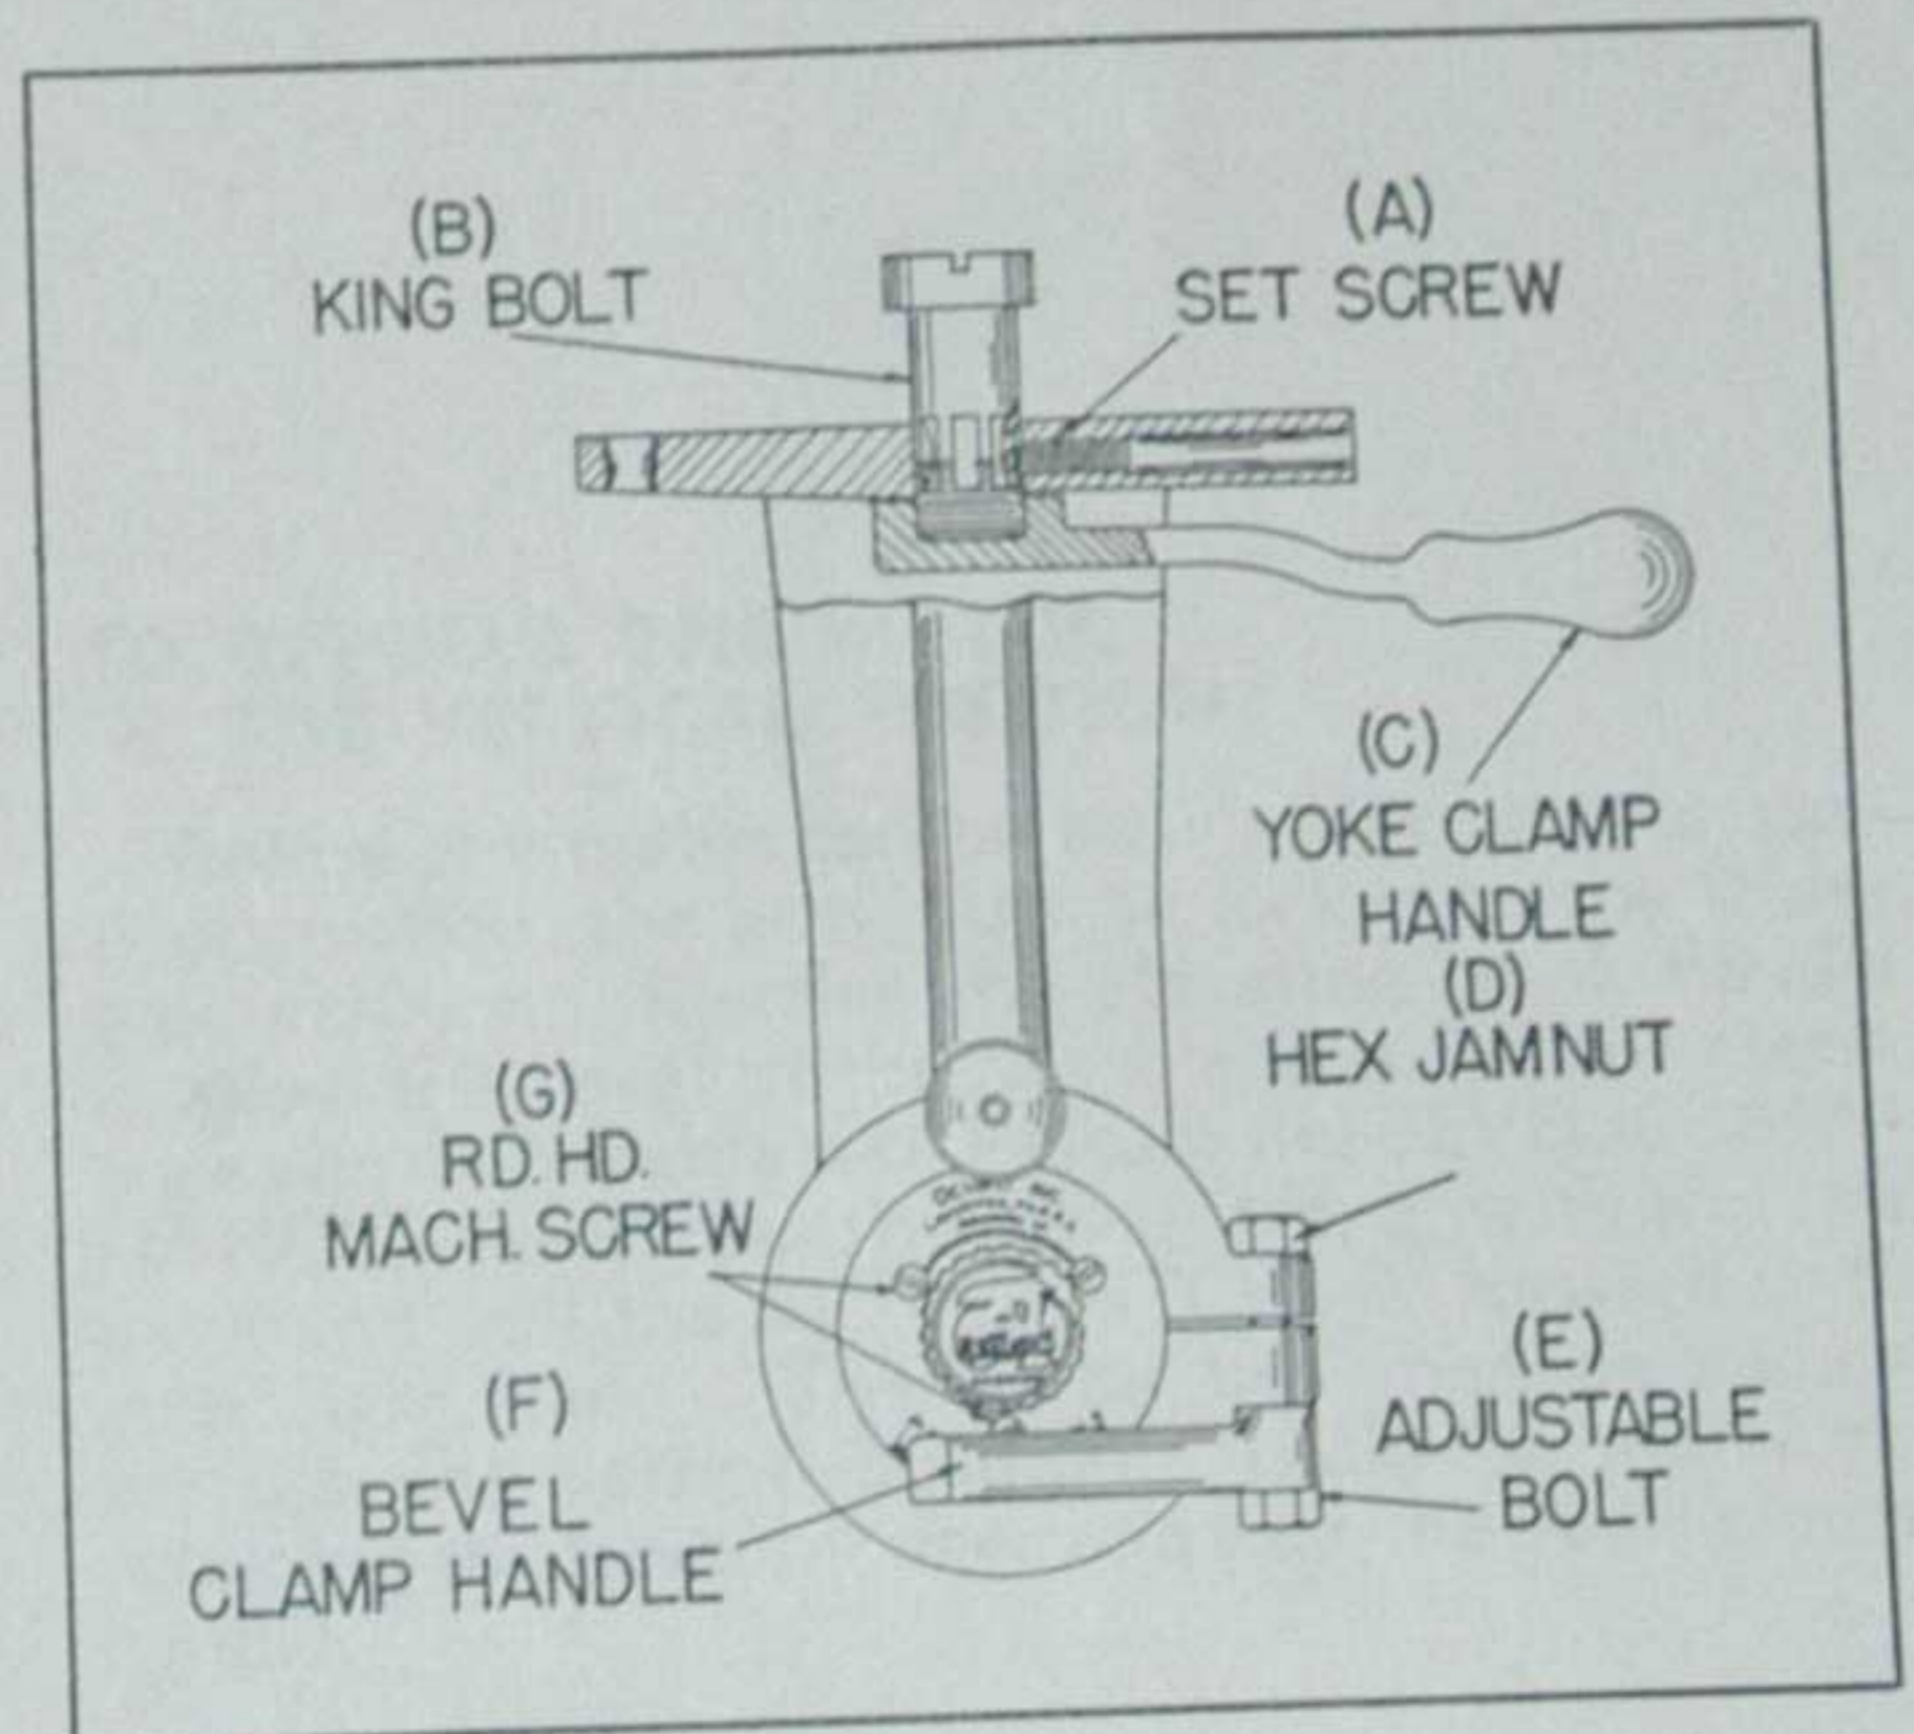

FIGURE 14
The yoke clamp handle (C, figure 14) firmly holds the motor and the yoke assembly to the roller head.
1. Loosen the bevel clamp handle (F, figure 14) and the hex jam nut (D).
2. Turn the adjusting bolt (E) to the right (clockwise) until the bevel clamp handle rigidly clamps the motor trunnion.
3. Tighten the hex jam nut (D).